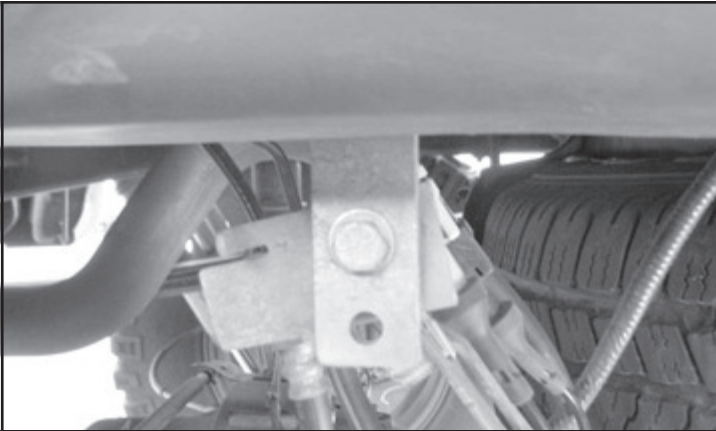

FIGURE 56 - STEP 53
53. Locate and install the rear lift blocks FTBK52. The extended bump stop perch will be facing inboard of the truck. Using the provided u-bolts, nuts and washers, align the axle, lift blocks, and springs and torque u-bolts to 129 ft-lbs. **SEE FIGURE 56**